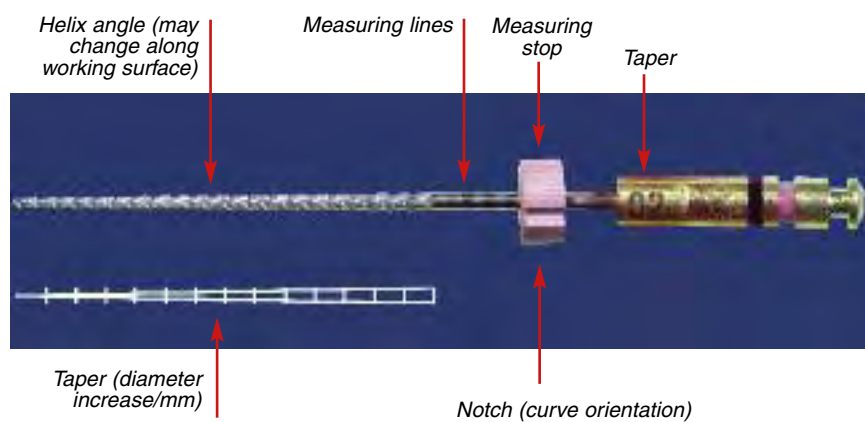

Fig. 1: A size 25 file with a 0.02 taper.
- **The taper:** Standardized dimensions played an important role at the time they were instituted for providing the needed consistency for hand instruments, but were soon seen as limitations for rotary instrumentation. One of the first standards for file design to be eliminated was file taper. The taper is usually expressed as the amount the file diameter increases each millimeter along its working surface from the tip toward the file handle. For example, a size 25 file with a 0.02 taper would have a 0.27 mm diameter 1 mm from the tip, a 0.29 mm diameter 2 mm from the tip, and a 0.31 mm diameter 3 mm from the tip (Fig. 1). Some manufacturers express the taper in terms of percentage, in which case the 0.02